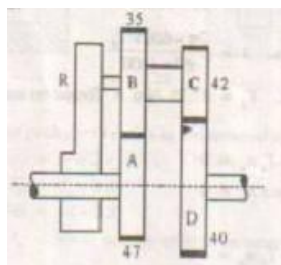

Fig. 4.6
6. An Epicyclic gear train is shown in the fig. 4.6. The wheel A is fixed & the input at the arm R is 3KW at 600rpm. Find the speed of wheel D and the torque required to hold the wheel A. Neglect frictional losses. (solve it by algebraic method)